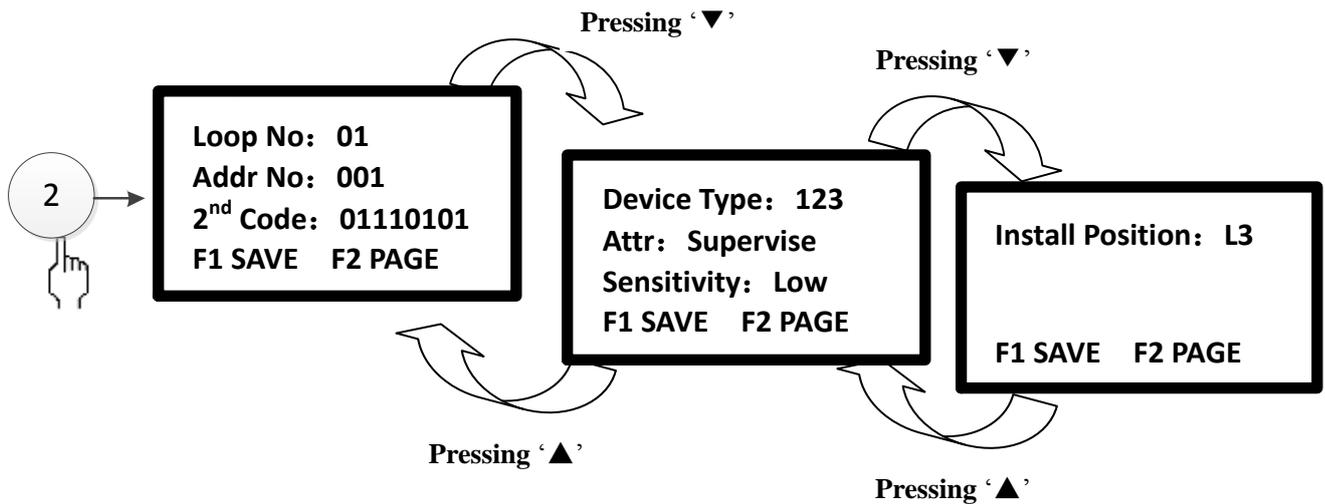

Fig. 3-28
② Loop Device Setup
Enter the screen as shown in Fig. 3-28 by pressing number 2 or moving cursor to select ②. Pressing UP and Down key selects loop device type. Pressing Left and Right key or number key sets specific devices. Press “F1” to save and “F2” for turning over pages. Pressing ESC returns to the previous menu.